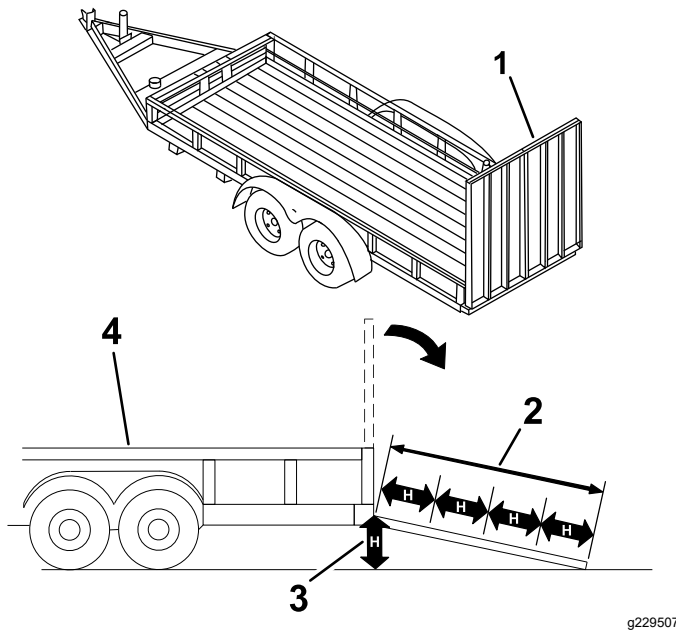

Figure 38
3. Lower the ramp (Figure 38).